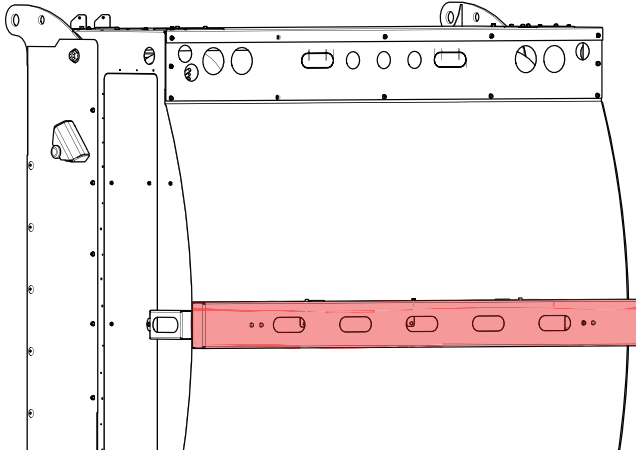

Figure 5
Remove the CNG covers (Figure 4 and Figure 5) and set aside.
1. Remove and retain the (7) fasteners from the tailgate light bar (Figure 5 shows light bar).